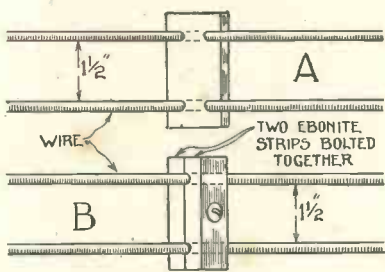

Fig. 5.—Two Methods of Insulating Leads.
The arrangement shown in Fig. 5 is hard to beat; it can be improvised from scraps of ebonite without much trouble. Here the two leads are held apart by ebonite spacers, the distance between leads is not of great account; 1½ in. to 2 in. will be ample. The spreaders may be either plain strips of ebonite with two holes at each end (A), or they may be clamps, as at (B).